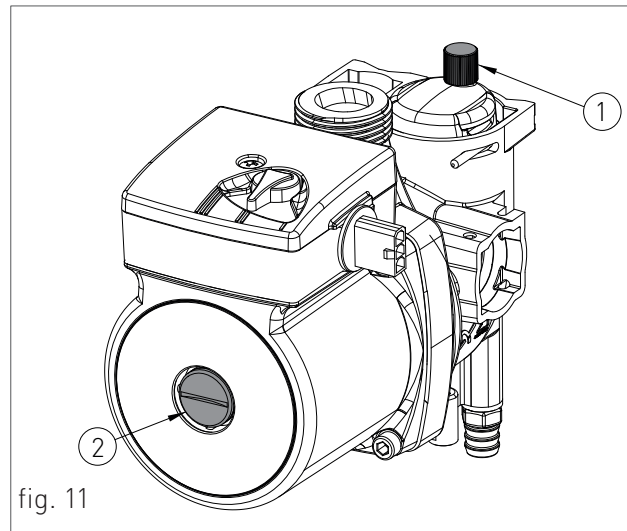

fig. 11
2. Slightly loosen the cap of the circulator air eliminator (1-fig. 11) to release the air from the system;
8. Unscrew the circulator cap [2-fig.11] to release any air bubbles and close it to prevent water leakage;